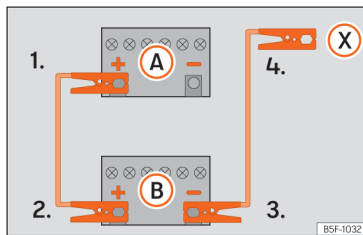

Fig. 195 Wiring diagram for vehicles without a start/stop system.
- Connect one end of the *red* jump lead to the positive (+) terminal of the vehicle with the flat battery (A).
- Connect the other end of the *red* jump lead to the positive terminal (+) in the vehicle providing assistance (B).
- Vehicles without a Start-Stop system:* connect one end of the black jump lead to the negative terminal (-) of the vehicle providing the current (B) »» Fig. 195.